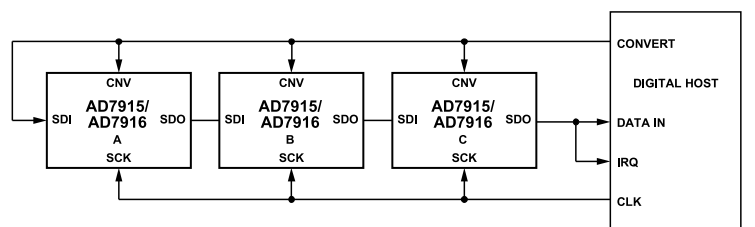
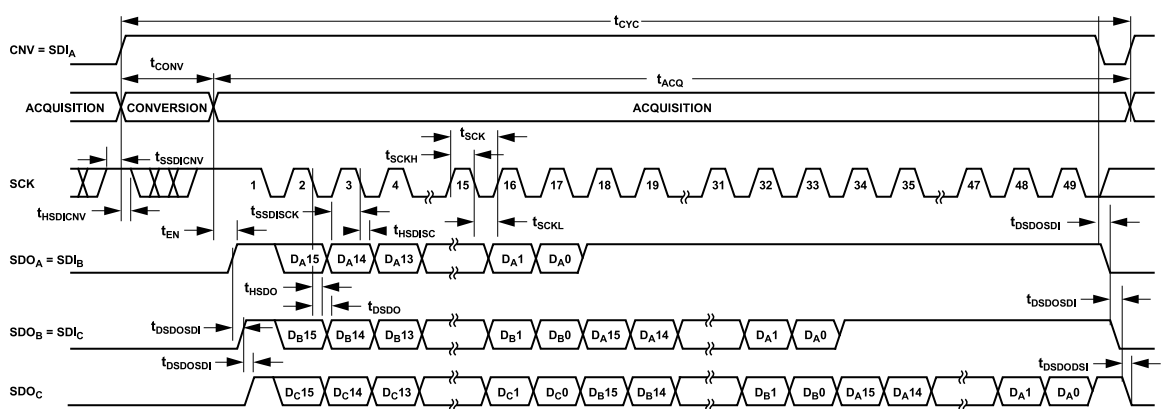

Figure 44. Chain Mode with Busy Indicator Connection Diagram
Figure 45. Chain Mode with Busy Indicator Serial Interface Timing
- ▶ in chain mode if SCK is high during the CNV rising edge (see Figure 45).
A connection diagram example using three AD7915/AD7916 devices is shown in Figure 44, and the corresponding timing is given in Figure 45.
read-back. When all ADCs in the chain have completed their conversions, the SDO pin of the ADC closest to the digital host (see the AD7915/AD7916 ADC labeled C in Figure 44) is driven high. This transition on SDO can be used as a busy indicator to trigger the data read-back controlled by the digital host. The AD7915/AD7916 then enter the acquisition phase and powers down. The data bits stored in the internal shift register are clocked out, MSB first, by subsequent SCK falling edges. For each ADC, SDI feeds the input of the internal shift register and is clocked by the SCK falling edge. Each ADC in the chain outputs its data MSB first, and  $16 \times N + 1$  clocks are required to read-back the N ADCs. Although the rising edge can be used to capture the data, a digital host using the SCK falling edge allows a faster reading rate and, consequently, more AD7915/AD7916 devices in the chain, provided that the digital host has an acceptable hold time.